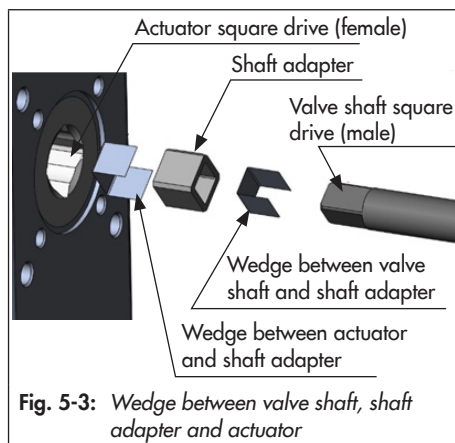

Fig. 5-3: *Wedge between valve shaft, shaft adapter and actuator*
1. Place the segmented ball (7) of the valve in the CLOSED position (0° angle of rotation).
2. Fasten the yoke (2) to the flange of the valve shaft (12) using two or four screws (depending on the nominal size).
3. If necessary, place the shaft adapter on the valve shaft (12). Slide the actuator over the adapter or valve shaft (12) and fasten it onto the yoke (2) with four screws. There must be no clearance between the actuator and valve shaft (12)/shaft adapter. If necessary, insert thin wedges (see Fig. 5-3 and the 'Accessories' chapter in the Appendix).
4. For the actuator's standard direction of rotation, adjust the stop bolt B to the point where the valve is completely closed and align the markings on the valve shaft (12) and packing gland (15).
1. Place the segmented ball (7) of the valve in the OPEN position (90° angle of rotation).
3. If necessary, place the shaft adapter on the valve shaft (12). Slide the actuator over the adapter or valve shaft (12) and fasten it onto the yoke (2) with four
screws. There must be no clearance between the actuator and valve shaft (12)/shaft adapter. If necessary, insert thin wedges (see Fig. 5-3 and the 'Accessories' chapter in the Appendix).
4. For the actuator's standard direction of rotation, adjust the stop bolt A to the point where the valve is completely open at 90° and align the markings on the valve shaft (12) and packing gland (15).
7. Adjust the stop bolt B to the point where the segmented ball (7) completely closes the valve and align the markings on the valve shaft (12) and packing gland (15).